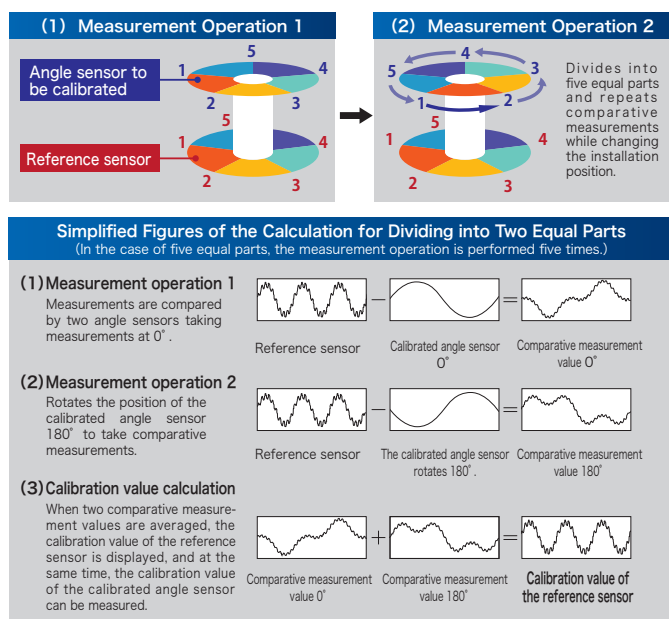

Figure 3
(2) Method for dividing equally (Figure 3)